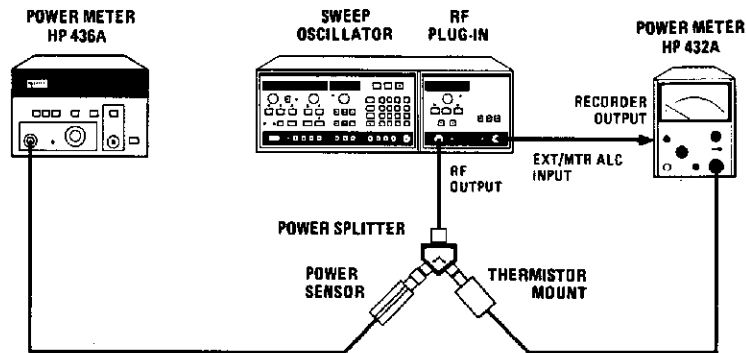

Figure 5-39. Power Meter Leveling Adjustment Setup
1. Connect the equipment as shown in Figure 5-39. On the Model 8350A/B, press [INSTR PRESET] [CW] and select a frequency at midband. Set the RF power level to  $-2$  dBm, as indicated on the Model 83592C POWER display. Allow the equipment to warm up for one hour.